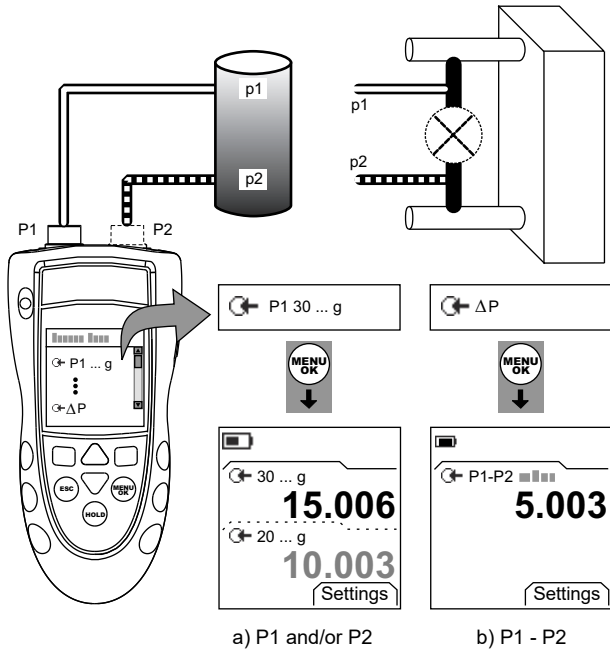

Figure 2: Example Configuration - Measure pressure
1. Connect the instrument (Figure 2) and, if necessary, adjust the *Set Up* (Table 1).
The examples in Figure 2 shows:
1. Connect the instrument to the pressure standard (Figure 2).